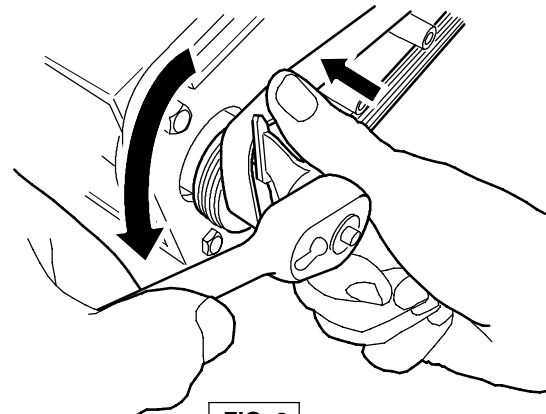

FIG. 3
**STEP 3:** Using a 3/8" socket wrench, install belt on pulley as shown (Figure 3). Make sure the belt grooves are properly aligned on both pulleys.